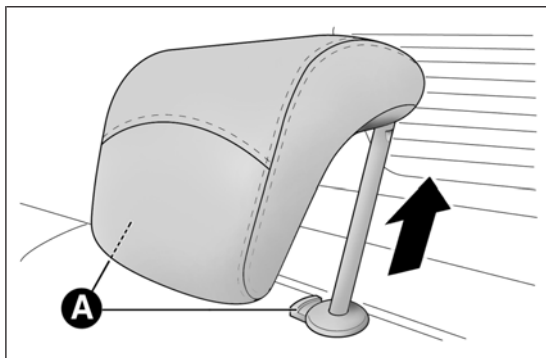

fig. 24
- ☐ press buttons A fig. 24, then remove the head restraints by pulling them upwards.